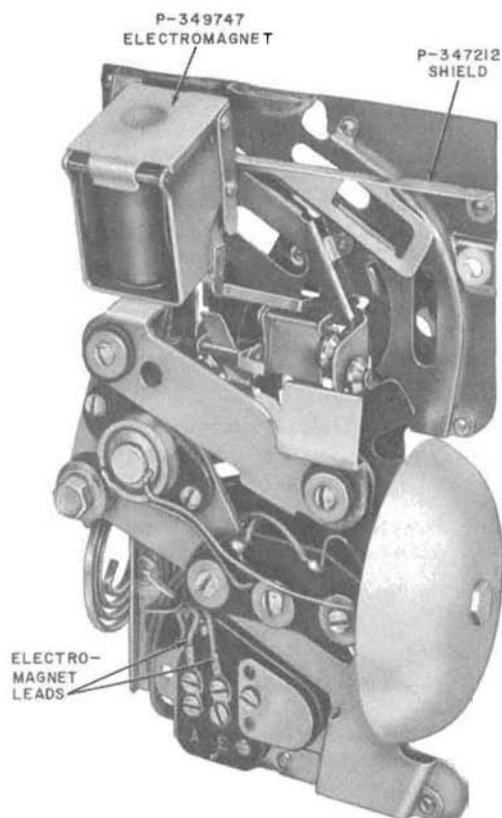

Fig. 4—Coin Chute and Gong Assembly Before Modification
- (a) On P-20A125 through P-20A130 and P-340222 coin chute and gong assemblies, disconnect leads from terminals A and E and remove P-349747 electromagnet (Fig. 4).
- (b) On P-340222 assembly, it will be necessary to remove P-347212 shield (Fig. 4) as follows:
- (1) Bend the tab outward on the left side of the shield.
- (2) Break the right side of the shield away from rivet by bending the shield in a repeated upward and downward motion.